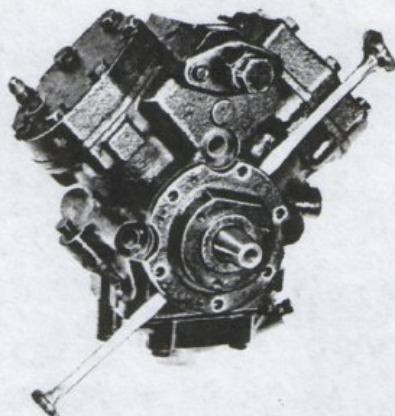

Fig. 42. Crankshaft Bearing Housing Removal
2. Remove bearing housing from case, using two screwdrivers inserted in slots provided to pry housing from case. Fig. 42.